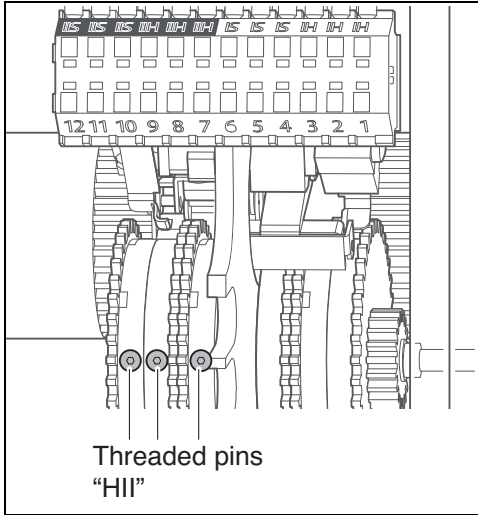

Fig. 14
- ▶ Tighten the 3 threaded pins of limit switch “HII” as previously described. See Fig. 14.